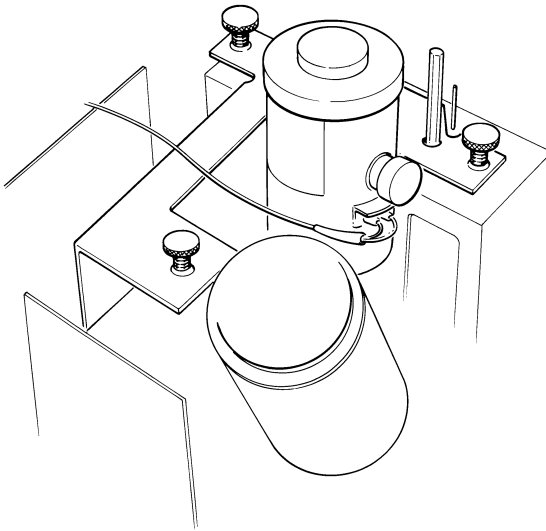

Figure 43 Interior of the Detector Area of the MultiScope System Microscope
The red MCT dewar and the metal frame and springs that support it become visible (Figure 43).
9. The MCT dewar is supported by three screws in the top plate of its frame (Figure 43). Make sure that the screws in the front two corners rest in the depressions provided for them.